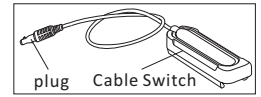

Fig 8
- 2) Insert the plug of Remote Cable Switch into the socket after matching the interfaces of plug and socket (Fig 8).